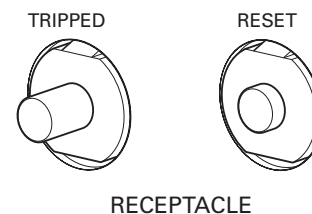

Fig.11
The receptacle circuit breakers protect the receptacles. Overloading the generator will trip the thermal circuit breaker. If an individual thermal breaker selector switch (C) moves to the tripped position as shown in Fig11 disconnect the electrical load from the receptacle. Let the circuit breaker cool down. Push the individual thermal breaker selector switch (C) to reset.